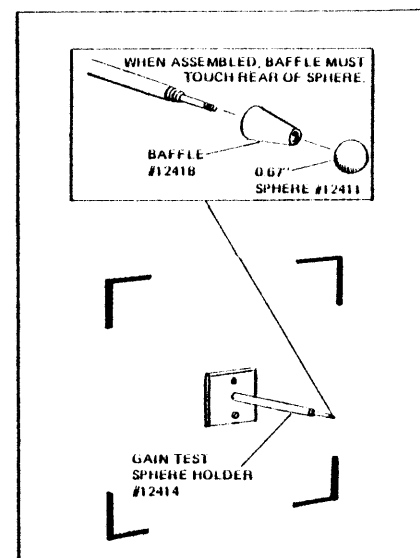

FIGURE 2-8. INSTALLING GAIN TEST SPHERE HOLDER
3. Install Baffle #12418 and 0.67" Sphere #12411 on the sphere holder (Figure 2-8).